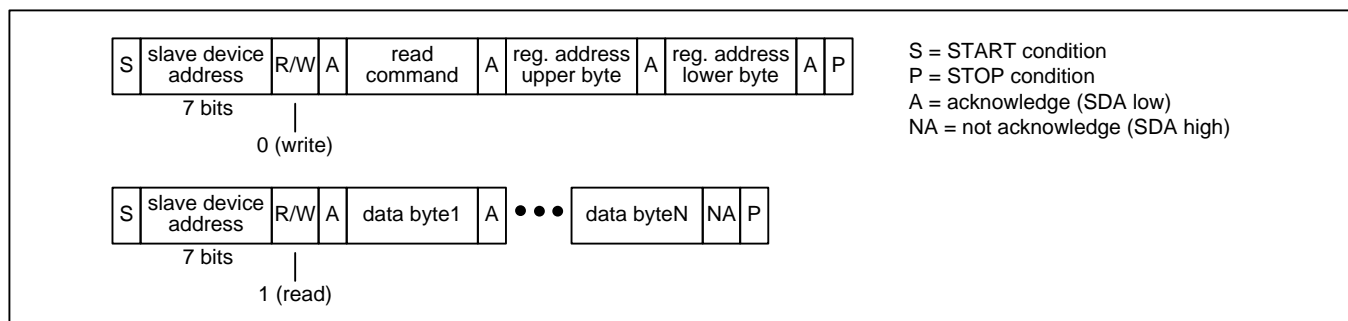
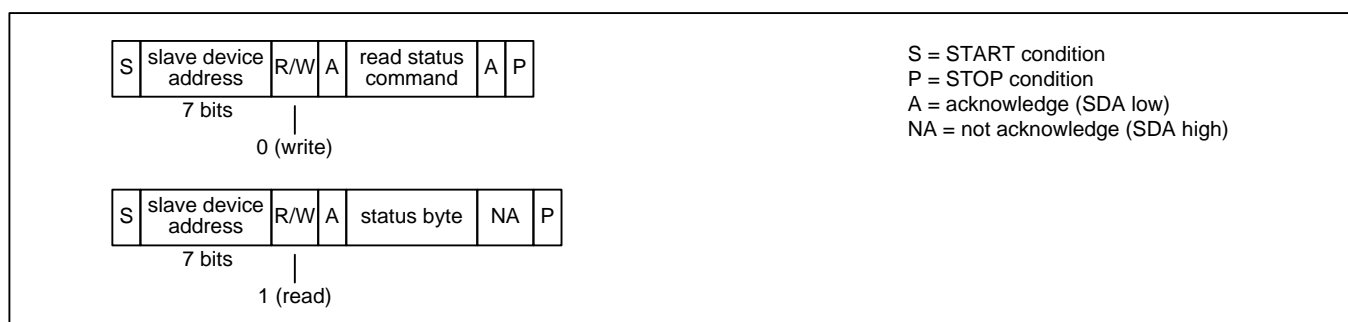

Figure 10 – I²C Read Transaction Functional Timing
Figure 13 – I²C EEPROM Read Status Transaction Functional Timing
Read Transactions. The device registers are accessible when $\overline{ESEL}=0$. The internal EEPROM memory is accessible when $\overline{ESEL}=1$. The bus master first does an I²C write to the device. In this transaction three bytes are written: the SPI Read command (see Table 3), the upper byte of the register address, and the lower byte of the register address. The bus master then does an I²C read. During each acknowledge (A) bit the device fetches data from the read address and then increments the read address. The device then transmits the data to the bus master during the next 8 SCL cycles. The bus master terminates the read with a not-acknowledge (NA) followed by a STOP condition (P). See Figure 10. Note: If the I²C write is separated from the I²C read by other I²C transactions then the device only outputs the data value from the first address and repeats that same data value after each acknowledge (A) generated by the bus master.
EEPROM Read Status. The bus master first does an I²C write to transmit the SPI Read Status command (see Table 3) to the device. The bus master then does an I²C read to get the status byte. In this byte, the least significant bit is set to 1 if the transfer is still in progress and 0 if the transfer has completed. See Figure 13.
Note: In Figure 10 through Figure 13, a STOP condition (P) immediately followed by a START condition (S) can be replaced by a repeated START condition (Sr) as described in the I²C specification.